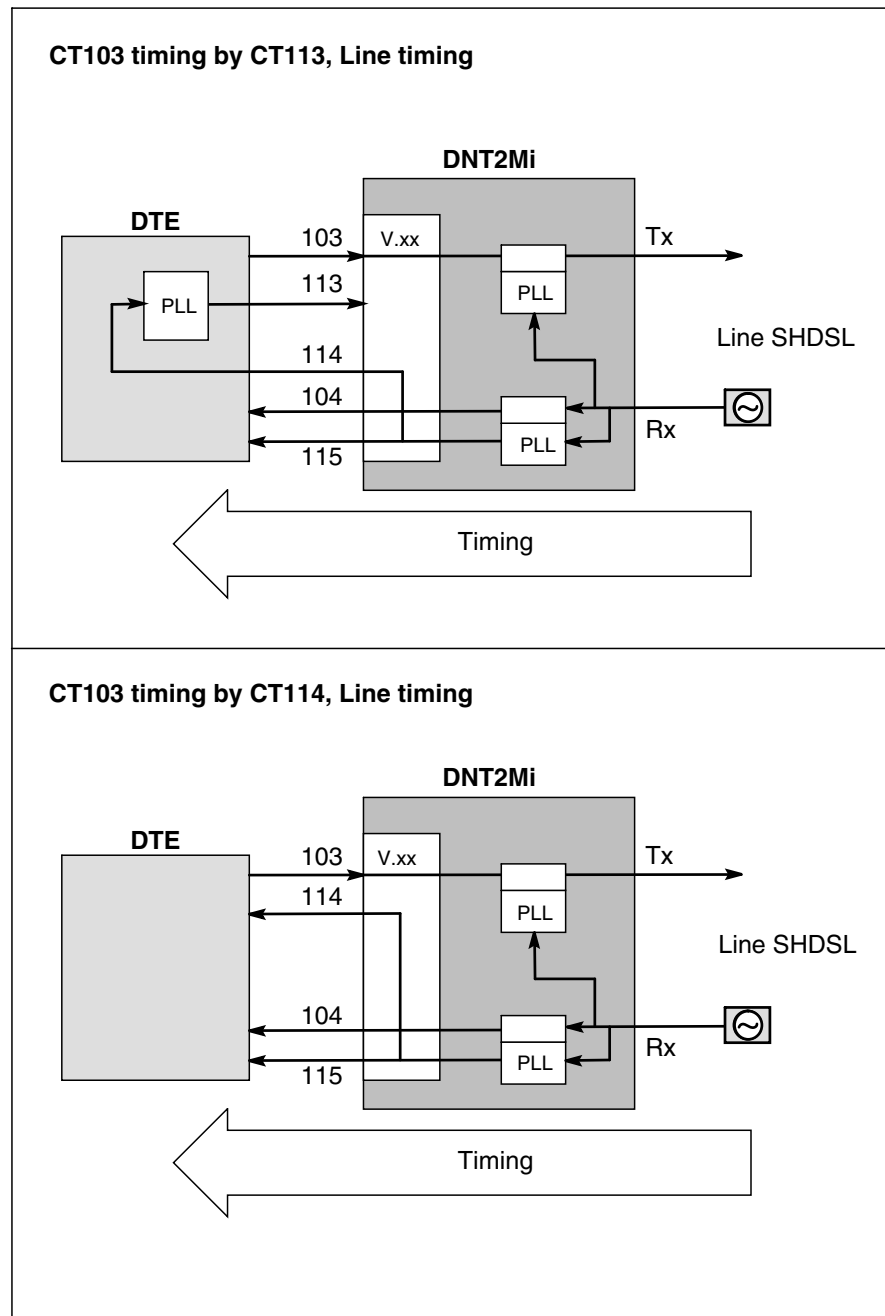

Figure 78. CT103 timing alternatives, line timing
The timing of circuit 103 can be set either by the clock from DTE (113) or by the clock of the equipment (114). See Figures 78 and 79 in Section 9.3.5.
The timing of the data coming from DTE can be selected either by circuit 113 (external, coming from DTE) or circuit 114 (internal generated by the DNT port), see Figures 78 and 79.